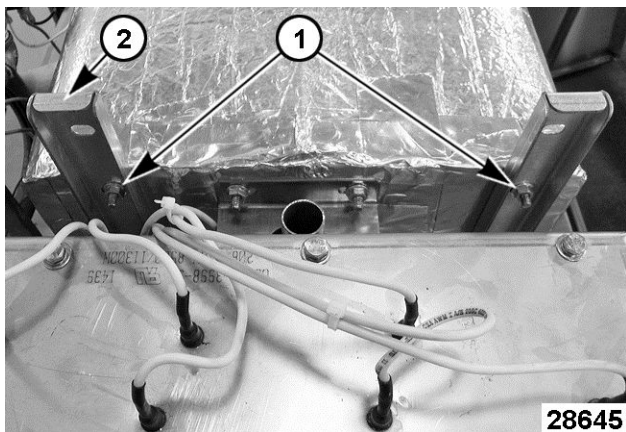

Fig. 33
12. Remove mounting nuts [1] Fig. 33 (qty. 4) securing rear of cooking compartment to the vertical mounting brackets [2] Fig. 33.